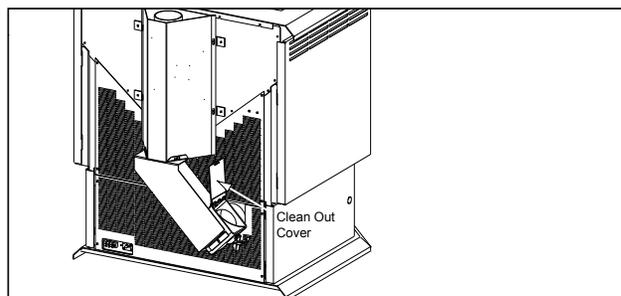

Figure 28.1
- b. Open the clean-out cover. See Figure 28.1.